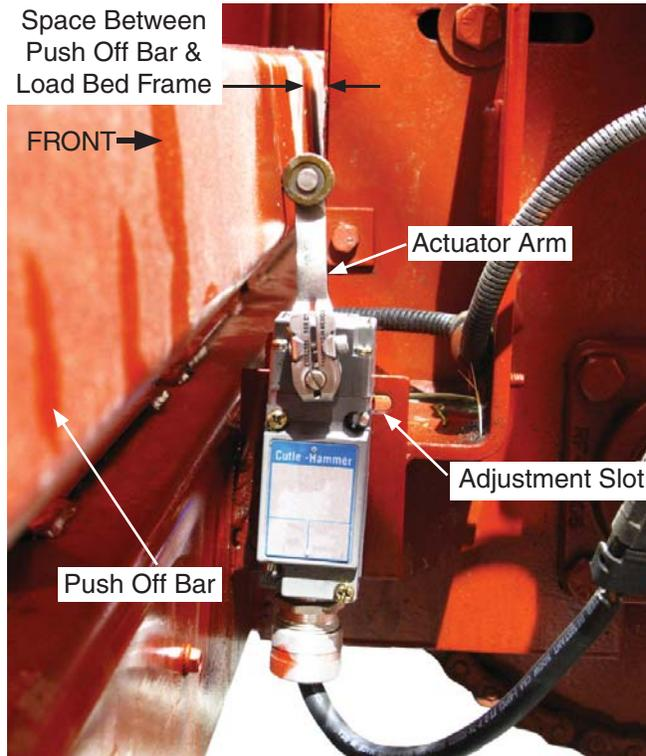

Figure 30 - Limit Switch - 11 Adjustment
1. Adjust the arm so that it properly contacts the Push Off Bar. The arm should not be set so it is pointing directly at the Push Off Bar as it could cause the arm to bend (see Figure 30).